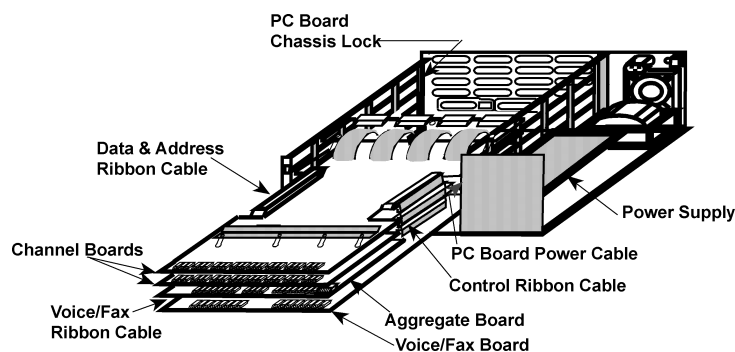

Figure 4-3. PC Board Removal
- 4 Disconnect the pc board power cable from the power supply. See Figure 4-3.
18	Connect the pc board power cable to the power supply being careful that the pins are aligned properly. See Figure 4-3.